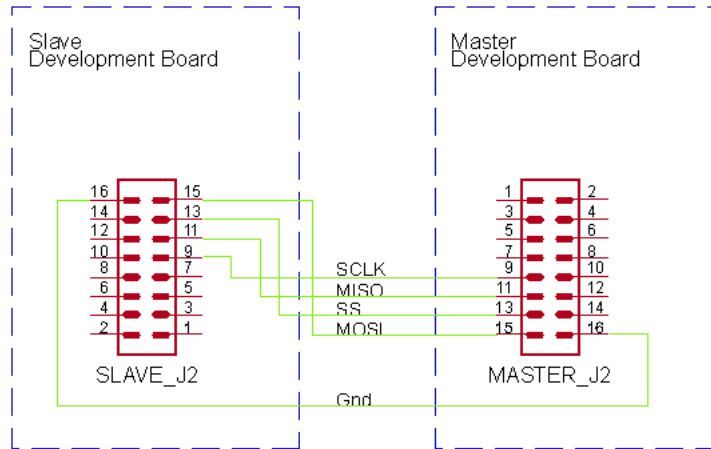

Figure 1. Serial Peripheral Interface Bus
The Serial Peripheral Interface bus is a synchronous, serial communication link that operates in full duplex, meaning that a device transmits and receives data simultaneously. The devices communicate as a Master/Slave, where the Master initiates communication by selecting a Slave device with a hardware line and also provides the synchronous clock used to shift data bits in and out of the Slave. The signals required for communication are the Slave Select (SS), Master In Slave Out (MISO), Master Out Slave In (MOSI), and Serial Clock (SCK). The advantages of SPI over other communication protocols is that the addressing is performed in hardware with the SS line, making it faster to address a device, and that communication is full duplex, allowing for faster transfers of data. See Figure 1 on page 2.